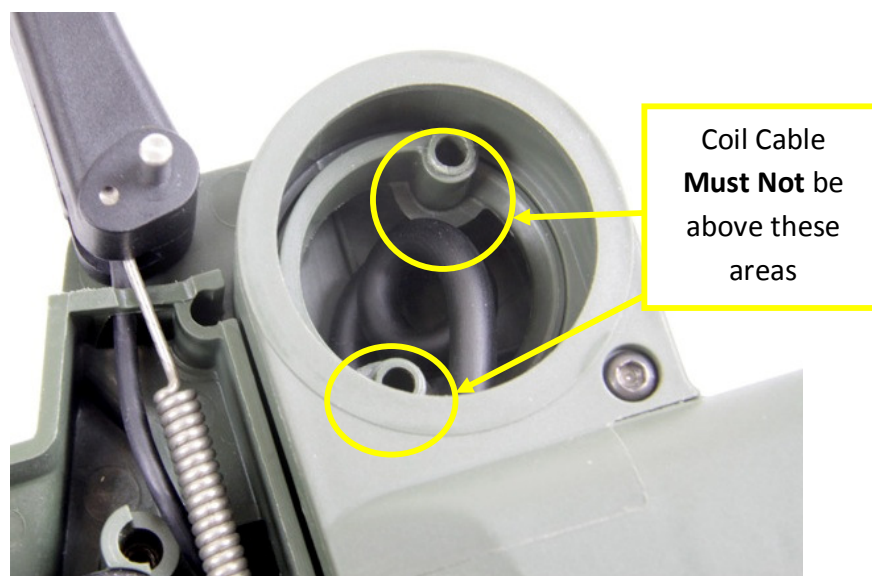

Figure 21: Coil Cable Position in Shaft Hinge
- Fit the coil cable into the cable router and check that the loop of coil cable within the shaft hinge is positioned so that it will not be trapped when the detector body is closed. Refer to Figure 21.